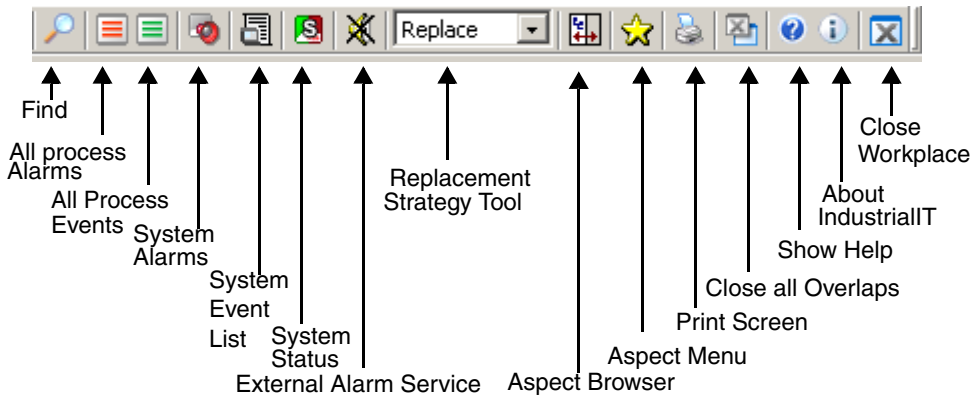

Figure 6. Operator Workplace Toolbar
2. Add required tools and displays. The toolbar’s size is limited, so if you add too many tools, all of them might not be visible. Application shortcuts will also be located on the same row as the tools. Favorites on the other hand, can be placed on a new row in the bar. An example of a toolbar in an Operator Workplace is displayed in Figure 6. See also the section Application Bar on page 30.